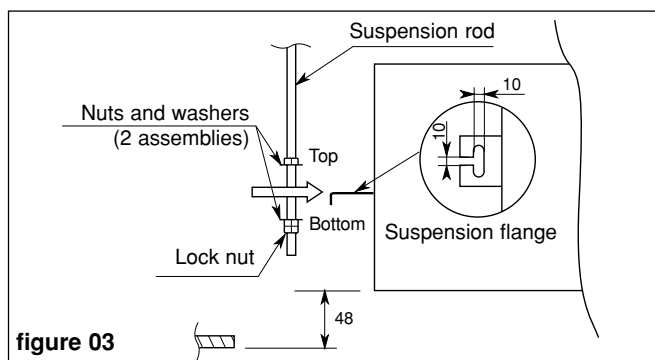

figure 03
- Install the unit on the suspension rods using the nuts and washers (figure 03).